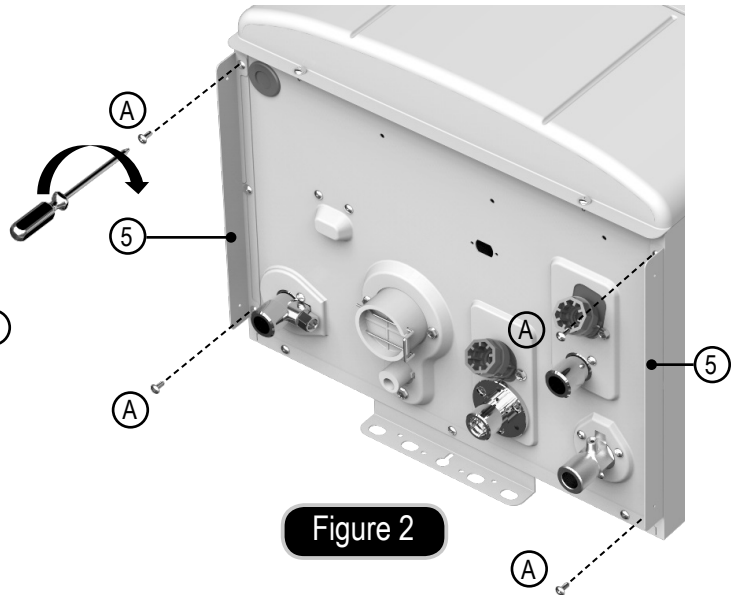

Figure 2
- 2) Install the two Case Bottom Brackets (5) to the bottom of the appliance with the 4 screws (A) removed in step 1). Refer to Figure 2.